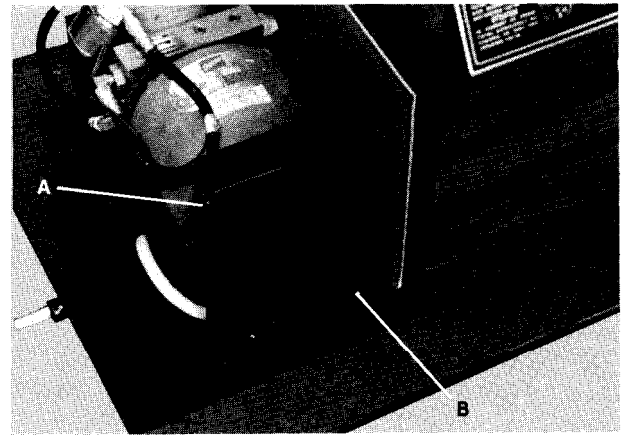

Fig. 17
- 1) Remove the control box cover by removing (4) # 6-32 x 3/8" screws, item A, Fig. 17, and (2) # 10-24 x 3/8" Self Tapping Screws, Item B, Fig. 17. Lift the Control Box Cover from the Control Box.
- 2) Replace the Control Box cover by placing the cover in position as shown in Fig. 17, aligning holes and installing (4) # 6-32 screws, Item A, Fig. 17, and (2) # 10-24 x 3/8" Self Tapping Screws, Item B, Fig. 17.